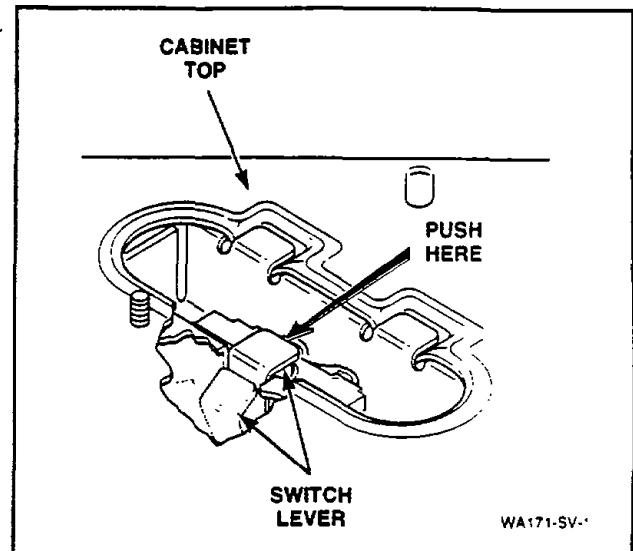

Figure 40
- Move the switch lever off the switch plunger, *Figure 40*, by moving the lever back under the cabinet top.